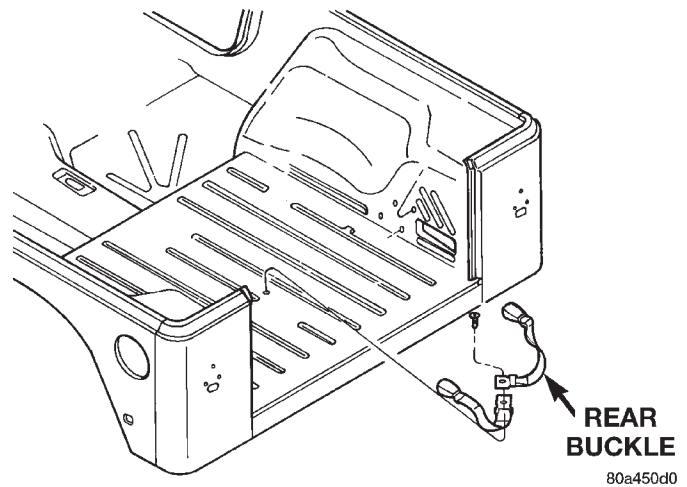

Fig. 57 Rear Buckle
- (1) Move the rear seat to the forward tumble position.
- (2) Grasp the carpet between the buckles and lift to access the anchor bolt.
- (3) Remove the anchor bolt and separate the buckle from the vehicle (Fig. 57).